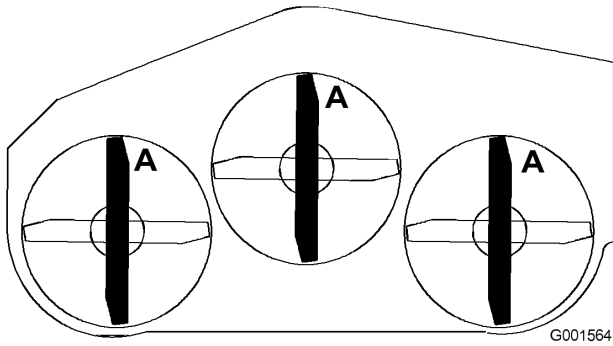

Figure 46
- Rotate the blades until the ends face forward and backward (Figure 46).